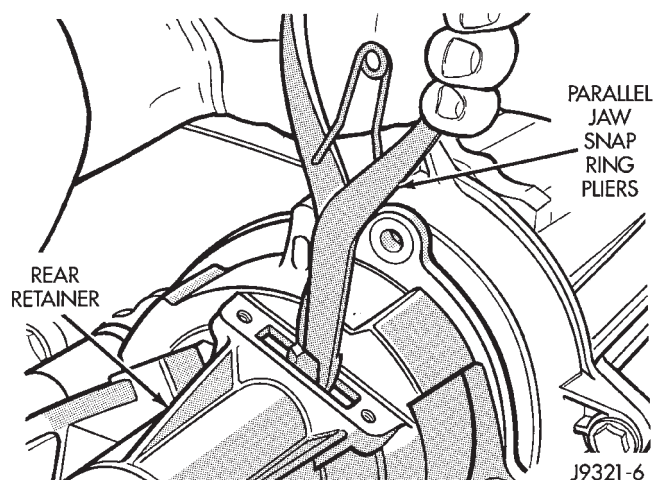
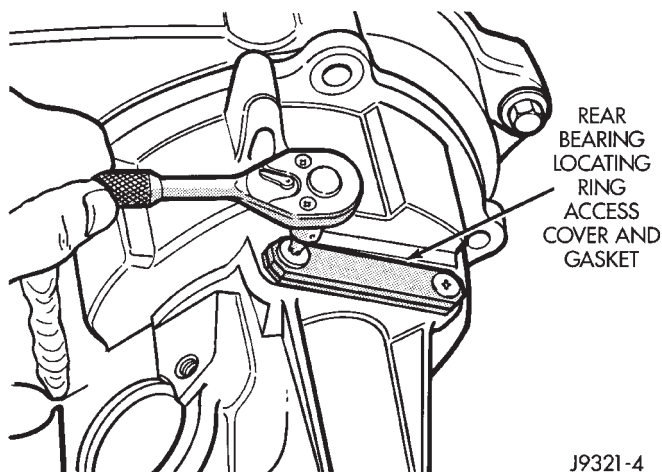

Fig. 94 Engaging Rear Bearing Locating Ring
Fig. 95 Installing Locating Ring Access Cover And Gasket
(9) Spread rear bearing locating ring and slide rear retainer into place on rear case (Fig. 94).
(10) Install and tighten rear retainer bolts to 27-34 N•m (20-25 ft. lbs.).
(11) Install locating ring access cover and gasket (Fig. 95). Tighten plate attaching screws to 10 N•m (85 in. lbs.) torque.